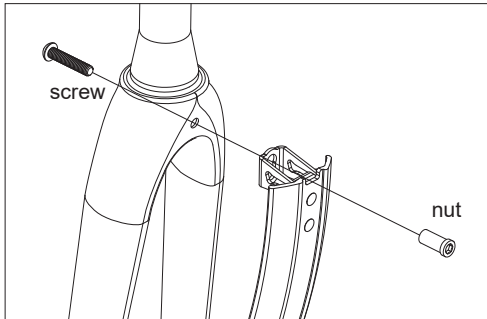

Fig. 16: Pavement bike fender installation.
1. Remove the nut from the rear of the front fork (Fig. 16). Depending on the model, the mating screw may be part of the caliper brake assembly or a bare screw.
2. Position the fender on the back side of the fork and reinstall the nut so that it passes through the slotted fender mount. Tighten (Fig. 16).